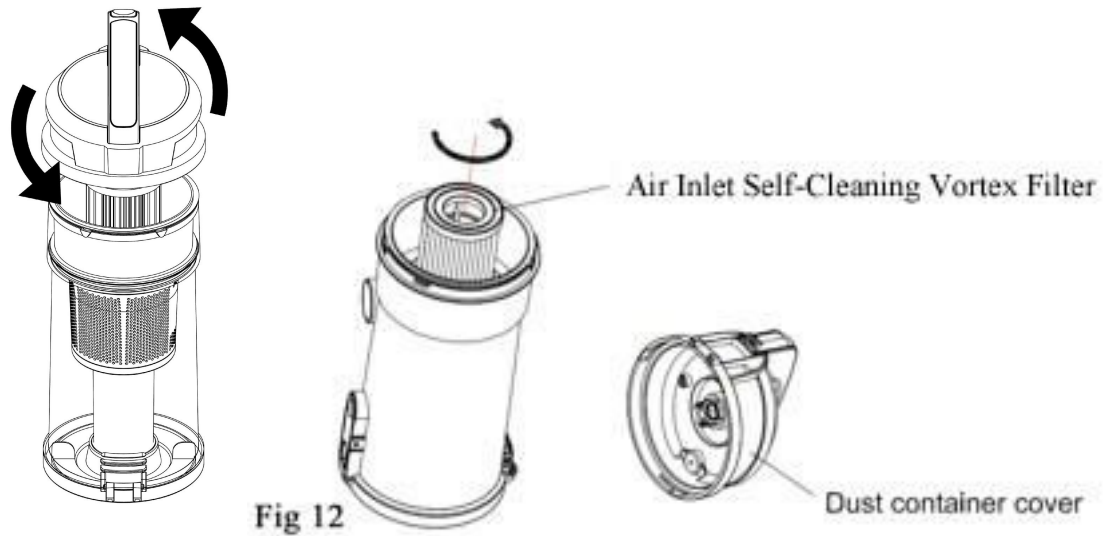

Fig 12
1. Open the top Vortex chamber cover by rotating the cover counterclockwise. (Fig 12)
2. Pull the Self-Cleaning Vortex filter from the chamber by rotating it counterclockwise to unlock it, and then pull it up and out of the unit. (Fig 12)